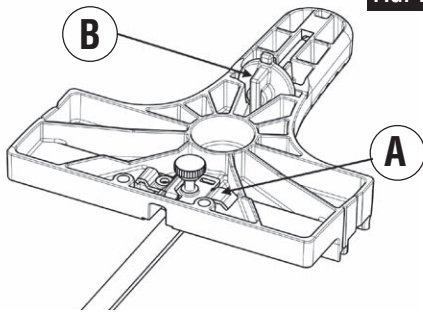

FIG. 11
The JA1010 is used for fast and accurate straight and circle cutting. It includes the guide, two clamps for attaching it to the jig saw (A), and a center pin for guiding circle cuts (B). The clamps and the centering pin can be stored on the guide (Fig. 11).